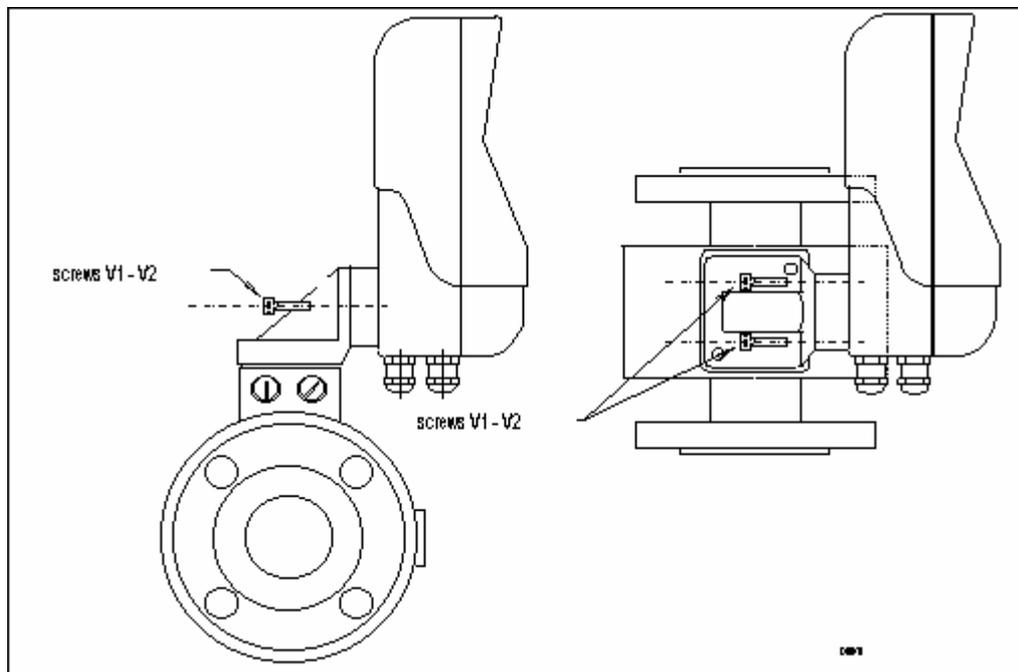

Fig. 1
- \* Remove the two screws V1 and V2 (Fig. 1).